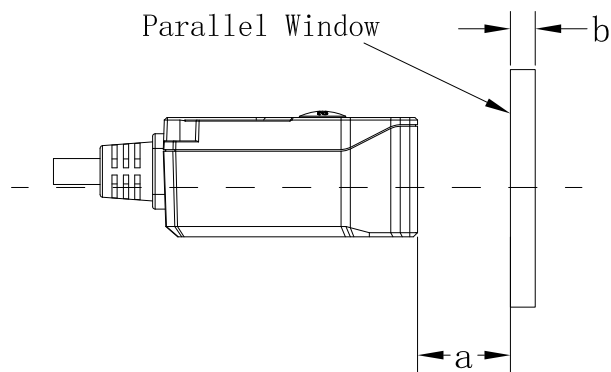

Figure 3-3
**Parallel window** – Primary option for imagers. The following window distance requirements should be satisfied: The maximum distance is measured from the front of the housing to the furthest surface of the window. In order to reach better reading performance, the distance from the front of the housing to the furthest surface of the window should not exceed  $a+b$  ( $a+b \leq 3\text{mm}$ ), as shown in **Figure 3-3**.